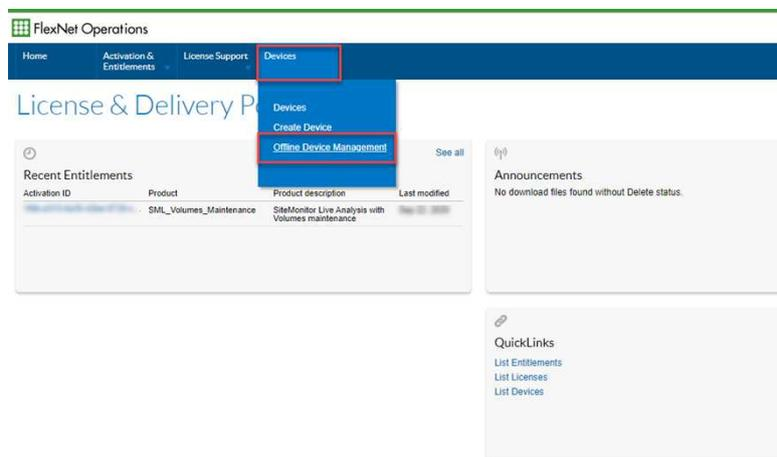

Figure 20. Select the Offline Device Management Option.
15. *Select* -> **Devices** -> **Offline Device Management** (Figure 20).